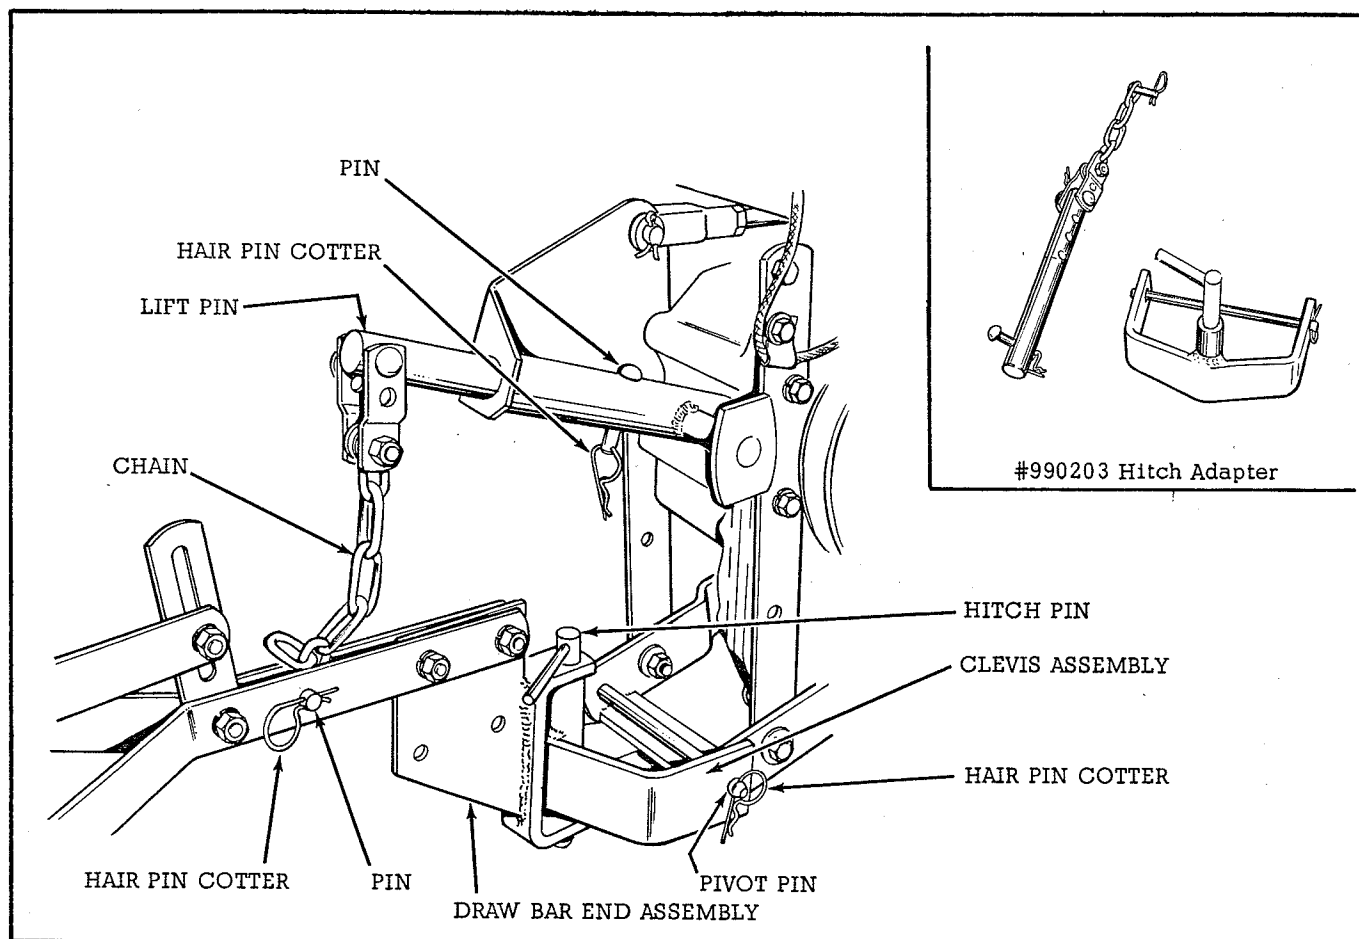

Fig. 2
3. The draw bar end assembly is fastened to the harrow draw bar by 2 carriage bolts through the upper set of holes in the draw bar end assembly, as shown in figure 2. Check to be sure that the upper set of holes are used when using the harrow on the Model 700.
To attach the disc harrow to the Model 700 Tractor it will first be necessary to attach the clevis assembly to the tractor tow assembly, using the pivot pin and hair pin cotters. See figure 2. Mount the lift pin in place in the tube of the tractor lift and fasten with pin and hair pin cotter.
Position the disc harrow in back of the tractor and attach the draw bar end assembly to the clevis assy. by inserting the hitch pin. Connect the lift chain to the harrow at point shown in figure 2, using pin and hair pin cotter.